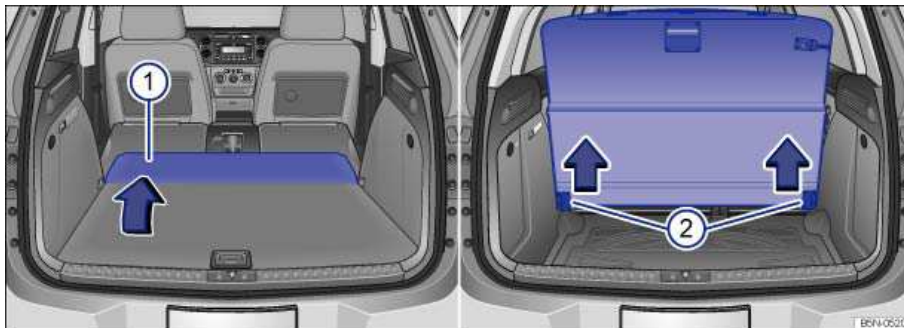

Fig. 108 Extending the luggage compartment floor forward or downward.
- Fold the cover forward ⇒ fig. 108 \(1\).